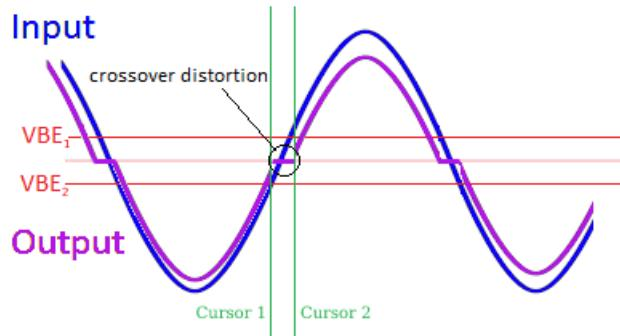

FIGURE 9-4: Crossover Distortion at Output
- Using Figure 9-4 as a guide, measure the base-to-emitter voltages required for both transistors to become forward biased. Record these values in Table 9-1.
****MEASUREMENT INSTRUCTIONS FOR V_{BE} IN WAVEFORMS APPLICATION:** Using Figure 9-4 as a guide, we first need to place Cursors 1 and 2 from Figure 9-4 on the oscilloscope. Open the oscilloscope in the Waveforms application and click on “View > x cursors”. Next, click on the “+ Normal” icon in the X Cursors window. Place two of the normal cursors on the output waveform where the crossover distortion just begins and ends for the output waveform (see Figure 9-4). Now, click on “View > y cursors”. Place two Y Cursors with the “+ Normal” icon, which will represent V_{BE1} and V_{BE2} . Click and drag one of the Y Cursors to the point at which one of the X Cursors that were previously created intersects with the positive cycle of the input waveform. This will be V_{BE1} . Now, click and drag the second Y Cursor to the point at which the previously created X Cursor intersects with the negative cycle of the input waveform. This will be V_{BE2} . See Figure 9-4 for reference.